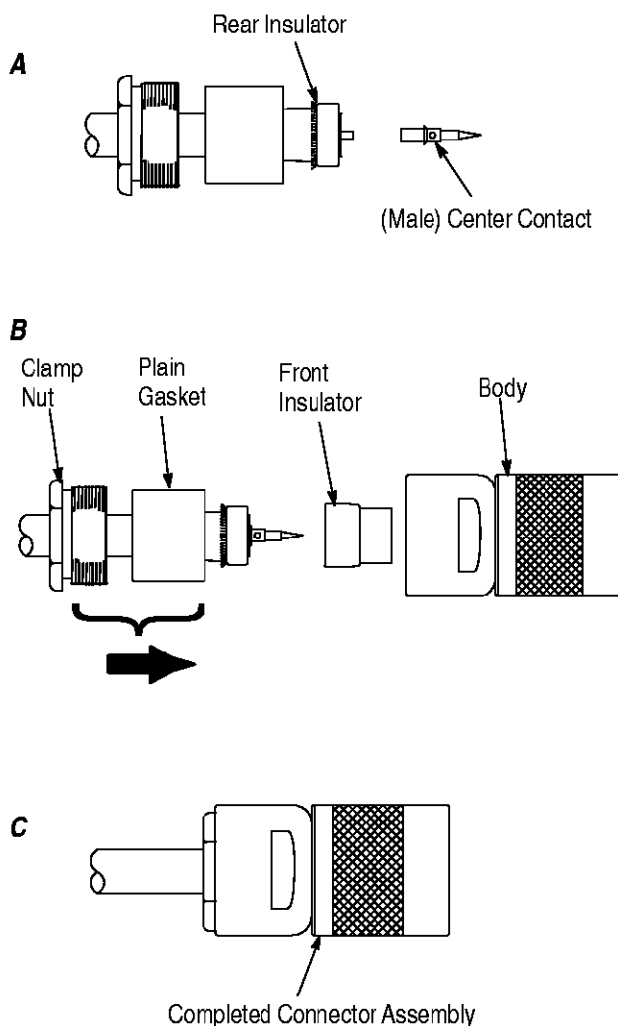

Figure 3
5. Fit the appropriate contact (male for plugs, female for jacks) onto the center conductor, with the collar of the contact pressed into the recess in the rear insulator. Hold the assembly together and solder the center contact to the center conductor. See Figure 3,A.
6. Slide the plain gasket and clamp nut up to the ferrule, trapping the braid. Fit the front insulator over the contact to butt against the the rear insulator and press the subassembly into the body as far as possible. See Figure 3,B.
7. Tighten the clamp nut to complete the connector assembly. Refer to Figure 3,C.